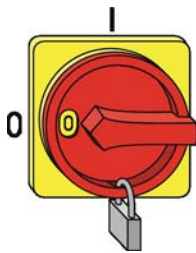

Fig. 5: Securing the mains isolator
3. ▶ Secure the mains isolator with a padlock (Fig. 5).